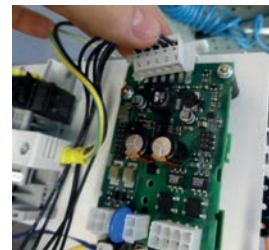

Fig. 4.a
- Disconnect the Lumberg (see Fig. 4.a) connector on the control board;
- Plug the Lumberg connector (see Fig. 4.a) onto the board, making sure it is inserted in the correct direction;
If the humidifier is disabled (contact ON-OFF open, see Fig. 4.d), the display shows "--" alternatively to the main screen (LED signal: Standby). If the display shows "---", it means a communication error between display and humidifier: control connection cable. If problem persists, call 800 729-5192